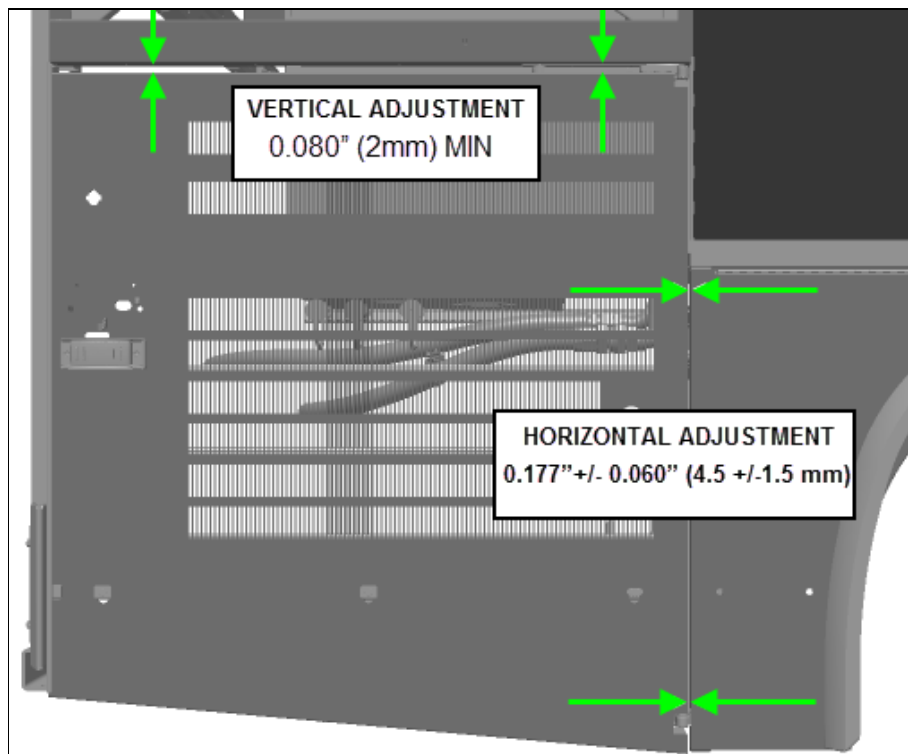

FIG.17 COMPRESSOR DOOR HORIZONTAL & VERTICAL GAPS
- 6) Remove door support installed at step 2 and open and close the door several times to make sure it is working properly, check door top and side adjustments. There should be an even (parallel) gap of at least 0.080" (2mm) at the top of the door and a 0.177" +/- 0.060" (4.5 +/- 1.5 mm) gap between the door and the vehicle rear fender (Fig.17).